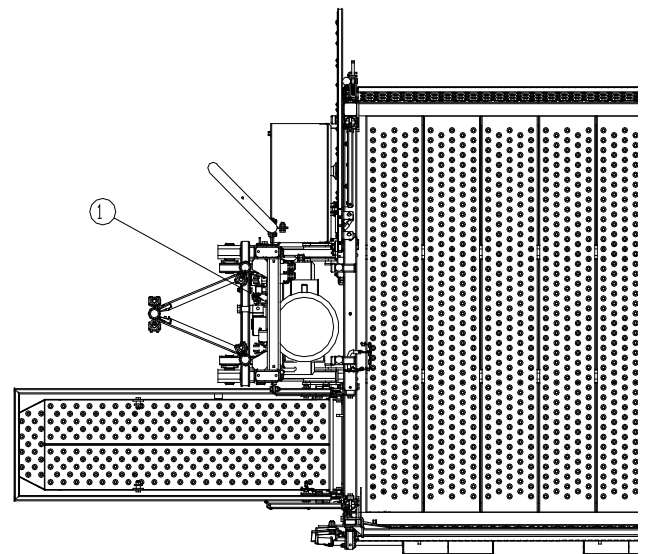

Fig.H.15 Limit switch mast presence
49. The drive unit must not be raised too high; the limit switch on mast rack (1-fig.H.15) must always remain in front of the rack. If the limit switch go up the mast rack, it will activate, cutting the power to the electrical motor, with the consequence of stopping the platform.